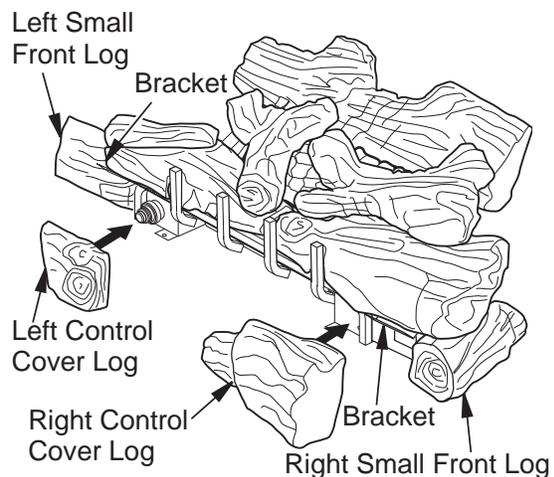

Figure 23 - Installing LBG36SM Model Control Cover Logs
7. For LTF36SM, the front right and left logs are longer and are supported with brackets on each end (see **Figure 23**). Place left and right small front logs under left bracket and beside right bracket.